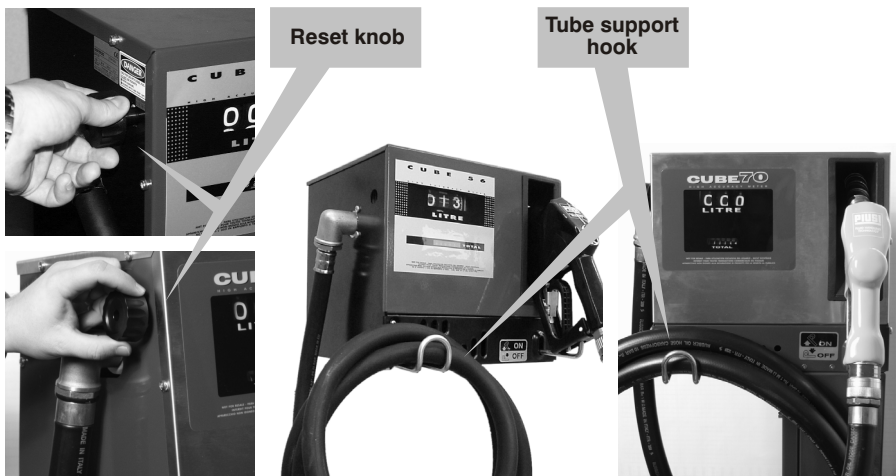

Fig. 2.5 - Turning on the Cube
- Lift the rest (ON) (Fig. 2.5).